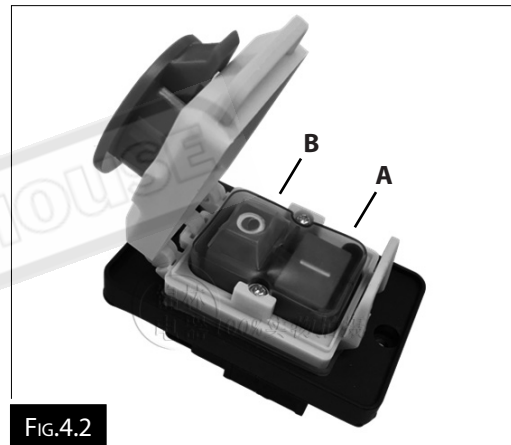

FIG.4.2
To start the machine the yellow door needs to be released by pressing against the catch (Fig.4.1) to open it and reveal the green ON and RED stop buttons. Push the bottom green button (A) to turn the machine ON. Push the top red button (B) to turn the machine OFF. (Fig.4.2)